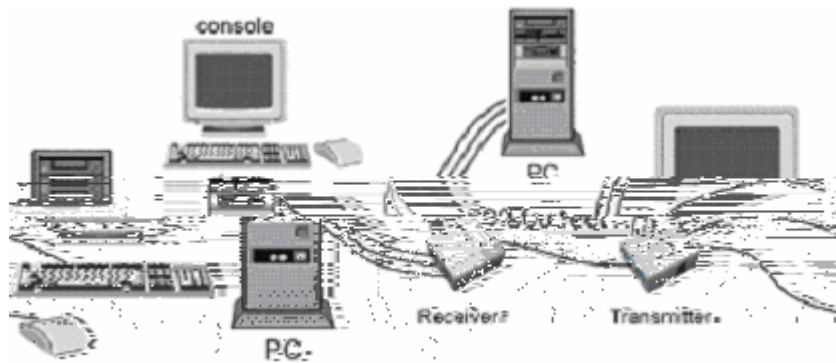

Figure 2-2: Advanced Setup with Remote Console and Local Computer
4. A local console can be installed by connecting a PS/2 keyboard, mouse, and monitor to the **Console** ports on the Transmitter (see Figure 2-2).
7. If you are connecting the Receiver to a local computer, connect one end of a KVM cable (not included) to the PS/2 and VGA ports labeled **PC Port** on the Receiver, and the other end of the KVM cable to the PS/2 and VGA ports on the local computer (see Figure 2-2).